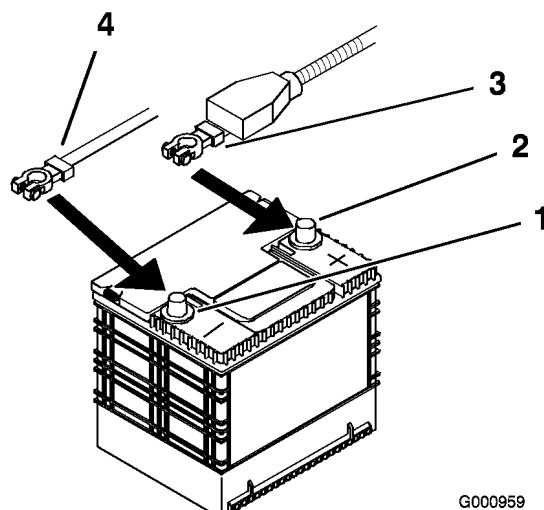

Figure 43
4. First disconnect the negative battery cable from the negative (-) battery terminal (Figure 43).
- Slide the red terminal boot off the positive (red) battery terminal. Then remove the positive (red) battery cable (Figure 43).
- Position battery in the tray with the terminal posts opposite from the hydraulic tank (Figure 43).
- Secure the cables with 2 bolts (1/4 x 3/4 inch), 2 washers (1/4 inch), and 2 locknuts (1/4 inch) (Figure 43).